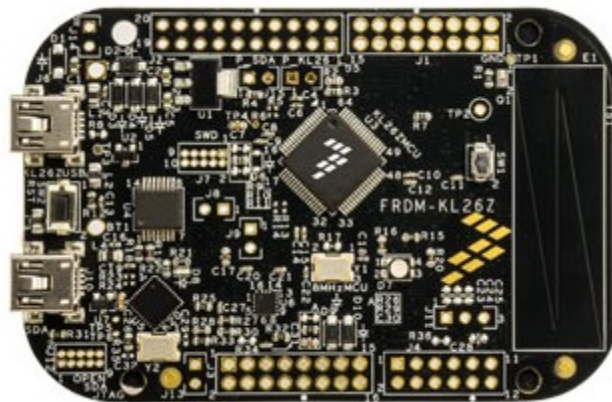

Figure 2. KL26Z Freedom Development Platform (FRDM-KL26Z)
- KL26Z Freedom Development Platform, Figure 2, based on the Kinetis KL2 family MKL26Z128VLH4 MCU